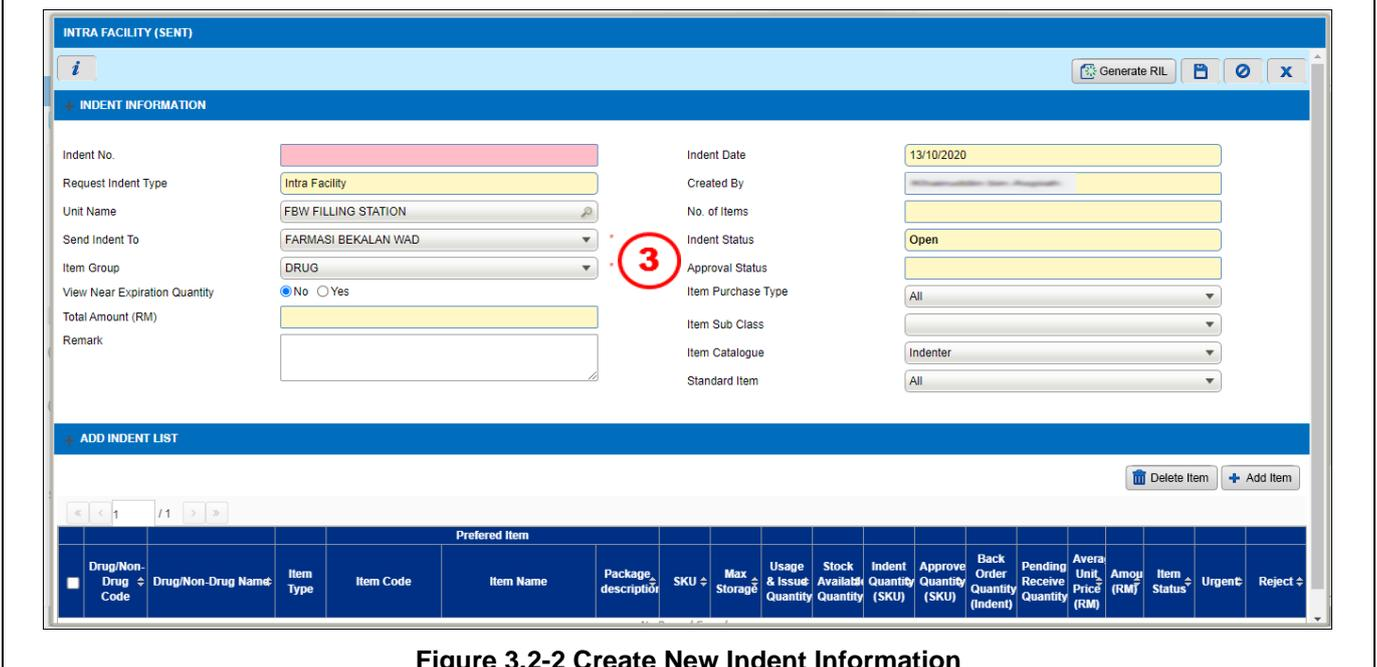

Figure 3.2-2 Create New Indent Information
- Indent screen will be displayed as shown in Figure 3.2-2.